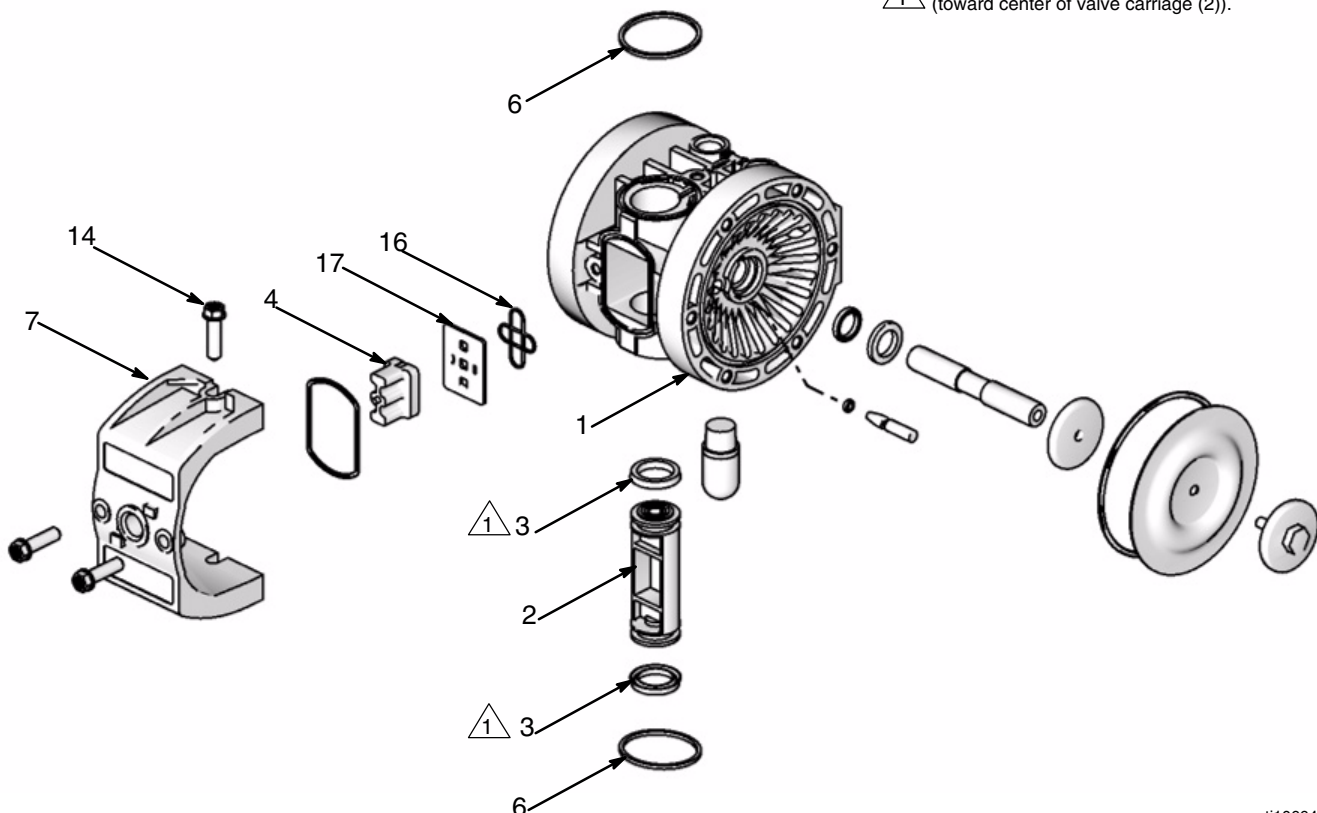

Fig. 5
Service the air valve as follows. See Fig. 5.
2. Remove the four screws (14) that hold the valve cover (7) on the center housing (1).
3. Remove the valve block (4) and valve carriage (2), and replace the u-cups (3). Replace the valve carriage and valve block. When you replace the valve carriage, position it all the way to one side or the other.
**NOTE:** The valve block shown in Fig. 5 is for pumps with an air-operated air motor. If your pump has a solenoid-operated air motor, this step does not pertain. Items 2, 3, 4, 16, and 17 are not required.
5. To reinstall the valve cover (7), spread cover apart enough not to damage the square ring packings (6) and slide cover (7) into the center section.
6. Install the screws (14), and torque to 40 to 45 in-lb (4.5 to 5.0 N•m). See **Torque Sequence** on page 18.